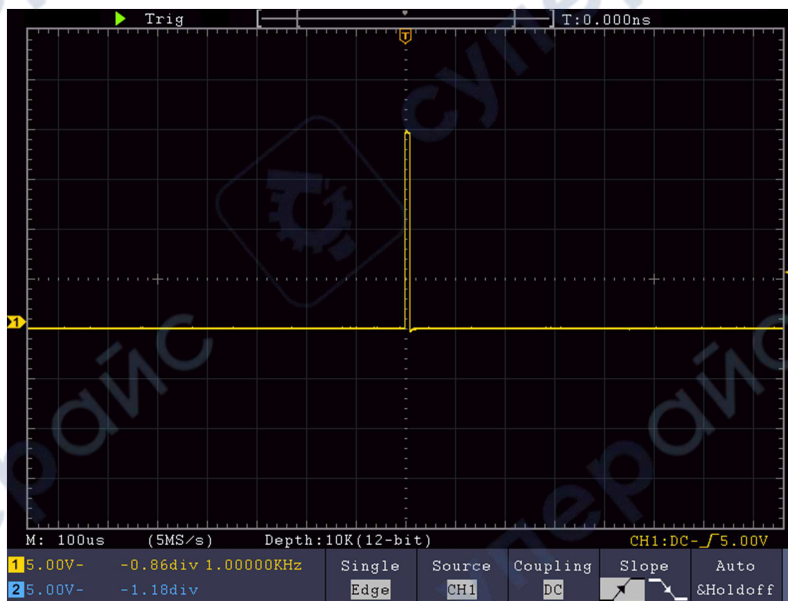

Figure 6-3 Capturing a Single Signal
- (2) Adjust the **Vertical Scale** and **Horizontal Scale** knobs to set up a proper vertical and horizontal ranges for the signal to be observed.
- (3) Push the **Acquire** button to display the Acquire menu.
- (4) Select **Acqu Mode** in the bottom menu. Select **Peak Detect** in the right menu.
- (5) Push the **Trigger Menu** button to display the Trigger menu.
- (6) Select the first menu item in the bottom menu. Select **Single** in the right menu.
- (7) In the left menu, select **Edge** as the mode.
- (8) Select **Source** in the bottom menu. Select **CH1** in the right menu.
- (9) Select **Coupling** in the bottom menu. Select **DC** in the right menu.
- (10) In the bottom menu, select **Slope** as  (rising).
- (11) Turn the **Trigger Level** knob and adjust the trigger level to the roughly 50% of the signal to be measured.
- (12) Check the Trigger State Indicator on the top of the screen, if it is not Ready, push down the **Run/Stop** button and start acquiring, wait for trigger to happen. If a signal reaches to the set trigger level, one sampling will be made and then displayed in the screen. By using this approach, a random pulse can be captured easily. For instance, if we want to find a burst burr of high amplitude, set the trigger level to a slightly higher value of the average signal level, push the **Run/Stop** button and wait a trigger. Once there is a burr occurring, the instrument will trigger automatically and record the waveform during the period around the trigger time. By turning the **Horizontal Position** knob in the horizontal control area in the panel, you can change the horizontal triggering position to obtain the negative delay, making an easy observation of the waveform before the burr occurs (see *Figure 6-3*).